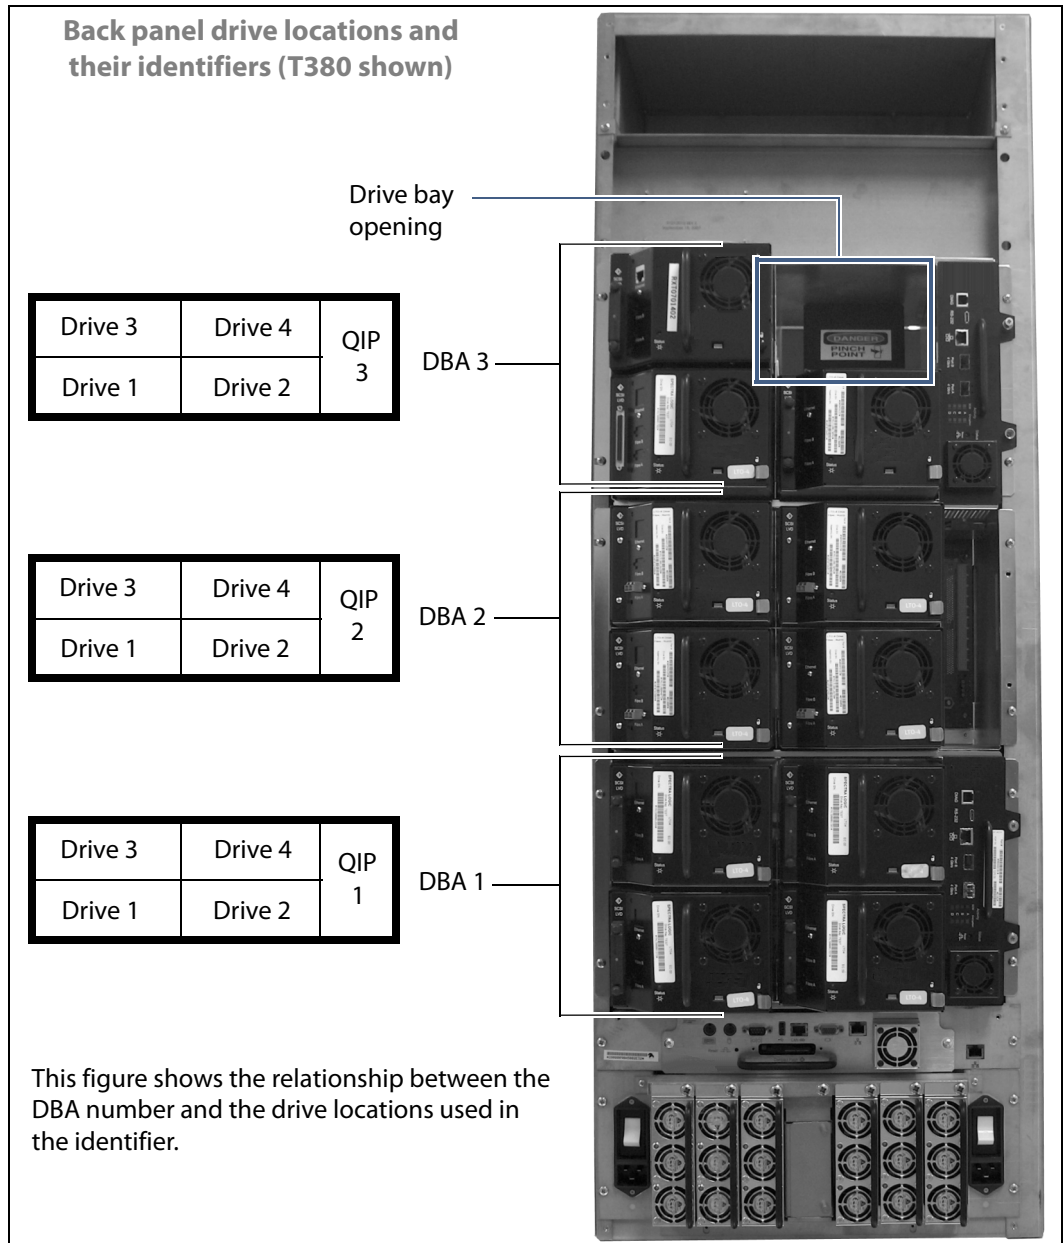

Figure 1 The drive sled (SCSI drive sled shown).
2. Make sure that the Status LED (see Figure 1 on page 5) is off, indicating that the drive is powered off.